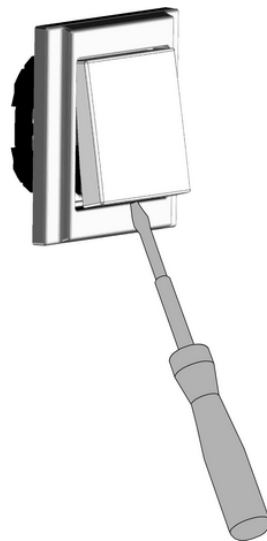

Figure 5: Remove cover
- i** Do not damage cover (4) and design frame (2).
- Insert screwdriver in slot on the bottom (figure 5) and raise cover (4) carefully.
- Slacken screw (5).
- Remove electronics cover (3) from insert.
- Removing the cover (4) (figure 5).